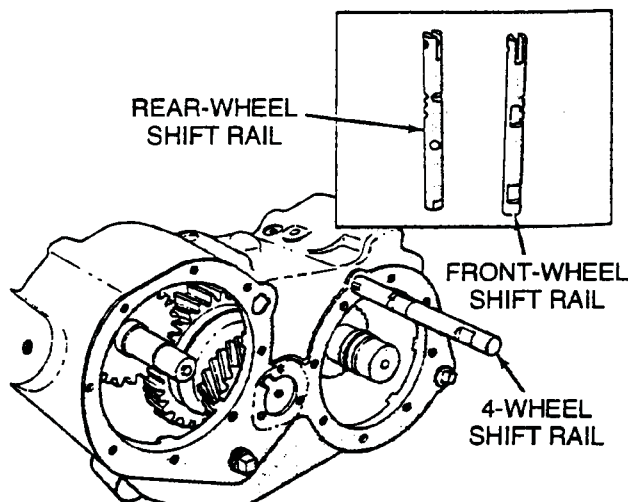

Fig. 2-7 Remove or Install Shift Rails
14. Remove shift rails, upper rail (range) first, then lower (4 wheel) (Fig. 2-7).
12. Start front wheel shift rail into case from back, slotted end first, poppet notches up (Fig. 2-7).